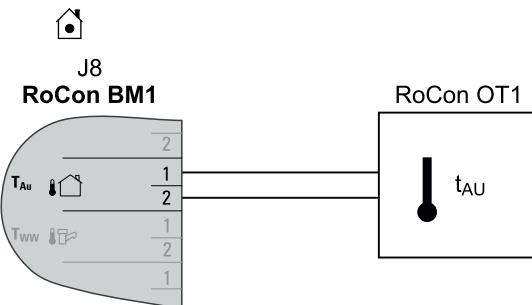

Fig. 4-31 Connection of the exterior temperature sensor RoCon OT1 to the ROTEX HPSU compact (operating as a single solution or master in a data bus)
- Connect the sensor line to the plug connection J8 on the board RoCon BM1 (see fig. 4-31).